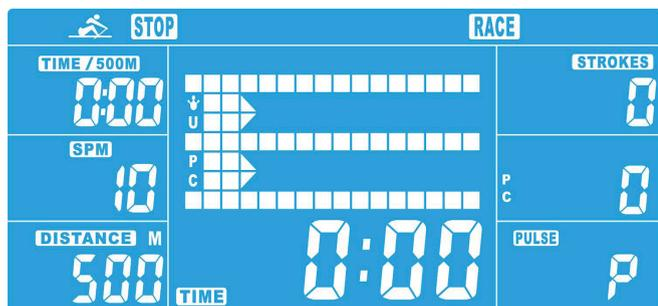

figure 10
1. Press the UP or DOWN button to select the race programme mode (fig. 10). Confirm with the ENTER button.
1. Press the UP or DOWN button to select the user-defined programme mode (fig. 10). Confirm with the ENTER button.